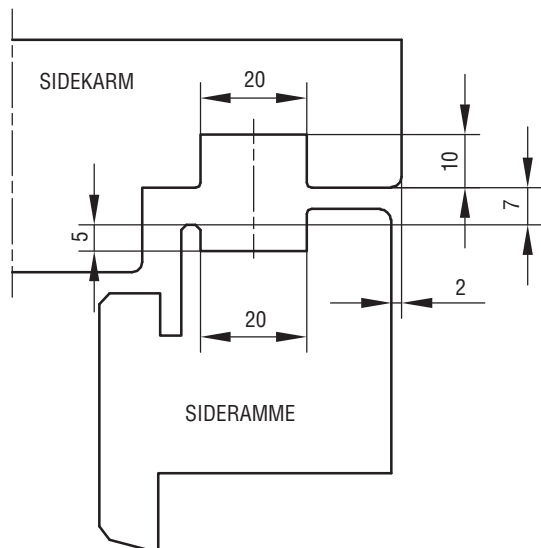

FIG. 1
1. SIDESTYKKERNE I KARM OG RAMME FORSYNES MED GENNEMGÅENDE NOTER. SE FIG. 1 OG 3.